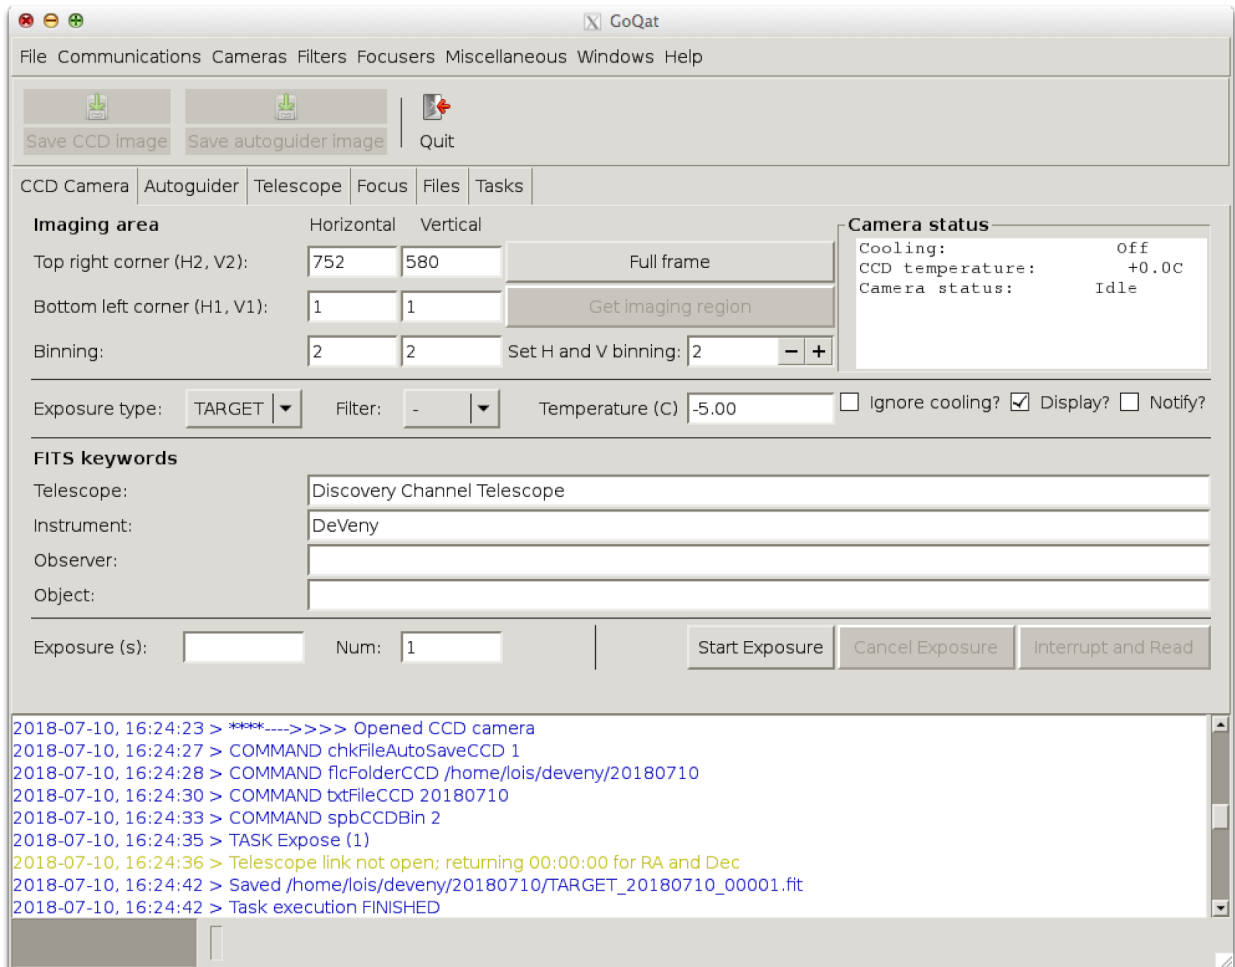

Figure 14. GoQat camera software graphical user interface, CCD Camera tab.
- b. In this terminal, type `goqat.start`; this script (`/home/lois/bin/goqat.start`) will start GoQat and nominally set the following parameters automatically; verify that the commands are printed in the goqat console with no errors (as in Figure 14):